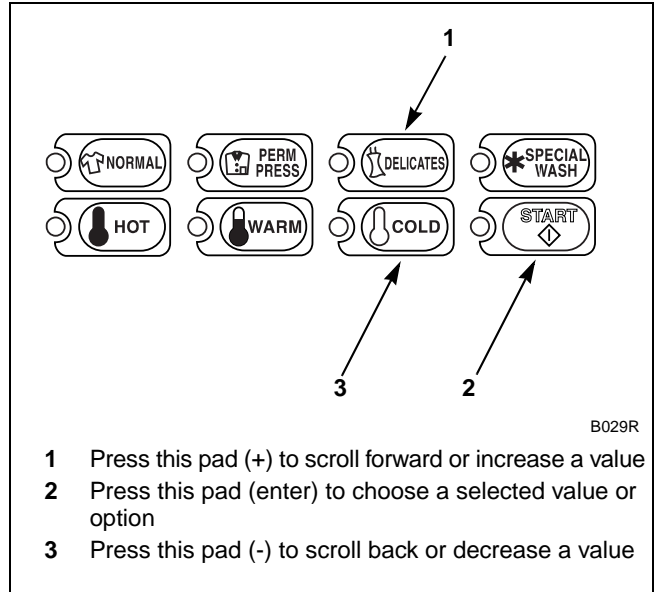

Figure 43
5. Press the DELICATES (+) or the COLD (-) keypad to increase or decrease the start hour to the desired hour. Refer to *Figure 43*.